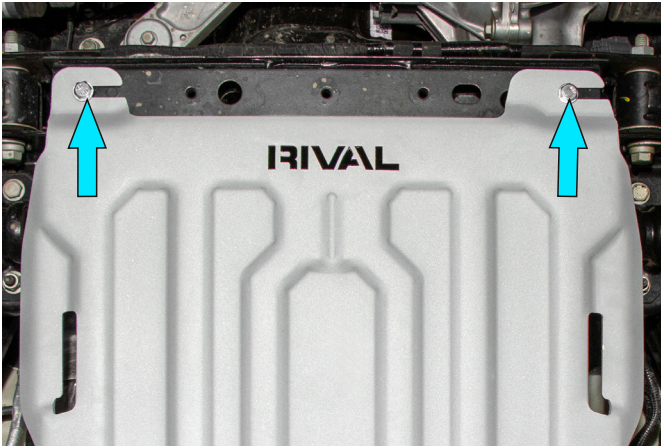

Fig. 6
5. Slide the front part of the transmission skid plate (item 1) above engine skid plate on the previously installed bolts (fig.6).